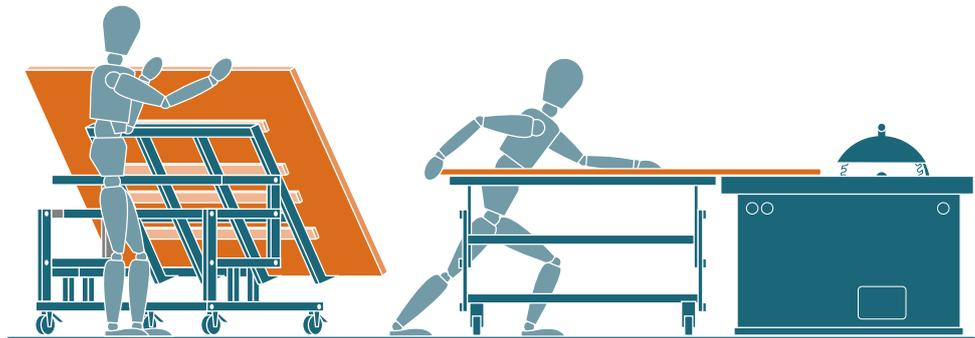

Figure 6 Panel trolley
- **Panel trolleys** – These are available with locking casters, tilting bed, moveable fence and a rise and fall table (see Figure 6). They enable a single machinist to load, manoeuvre and machine a large number of panels. Once loaded with panels and moved to a machine, the top panel can be adjusted to the height of the machine table and machined.